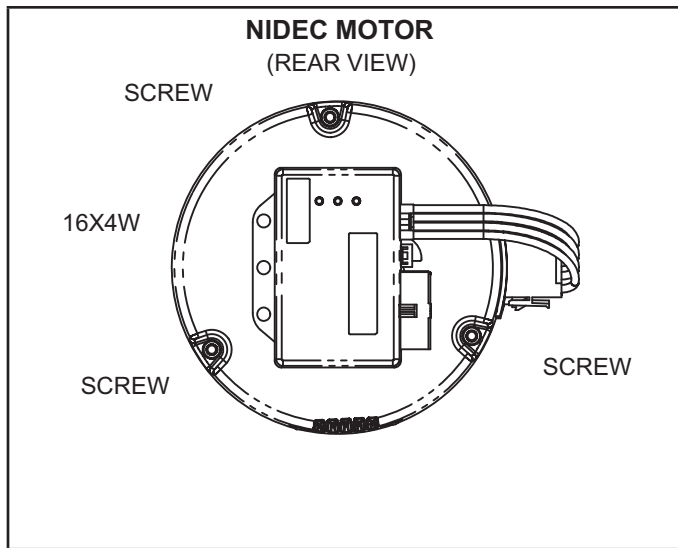

Figure 2
- 5 - Remove the three screws securing the motor to the control module (see Figure 2). The control module will separate from the motor. Set the screws aside.